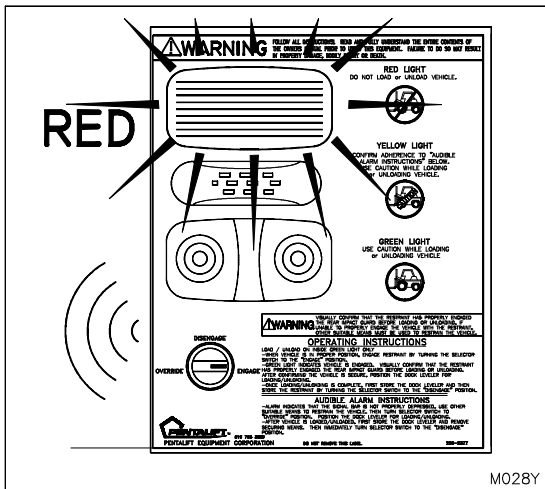
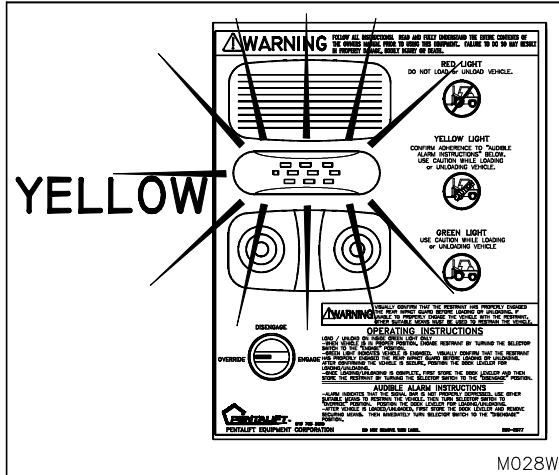

Figure 17: Inside Light Red and Alarm Sounding
Figure 18: Inside Light Yellow
4. Turn the selector switch to the "**ENGAGE**" position. The Restraint must move to the **FULLY** raised position. The **inside red** light must be illuminated while the **outside red** light is also illuminated and the audible alarm must be sounding. (See "Figure 17: Inside Light Red and Alarm Sounding" on page 23)
8. To test the **OVERRIDE** feature, ensure the signal bar is not depressed and follow the entire sequence outlined in Step 2. With the restraint in the fully raised position and with the audible alarm sounding, turn the selector switch to the “**OVERRIDE**” position. The hooking arm will automatically return to the lowered position, and the audible alarm will be silenced. The **outside RED** light must be illuminated and the **inside YELLOW** light must be illuminated. (See Figure 17 and Figure 18, page 23).